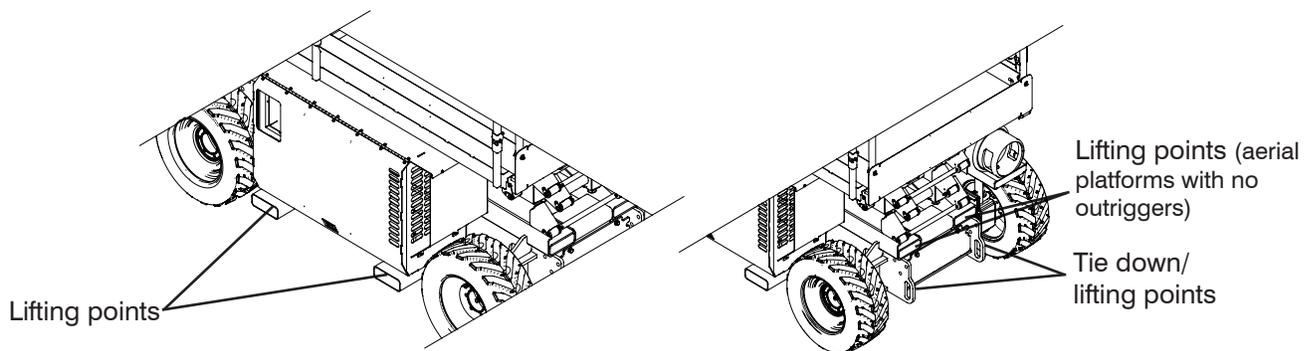

Figure 3-9. Tie Downs/Lifting Points
- The lifting/rigging may be attached to all twelve lifting points as illustrated in Figure 3-9.
When transporting, the aerial platform must be secured to the truck or trailer deck. Tie downs are available as illustrated in Figure 3-9.